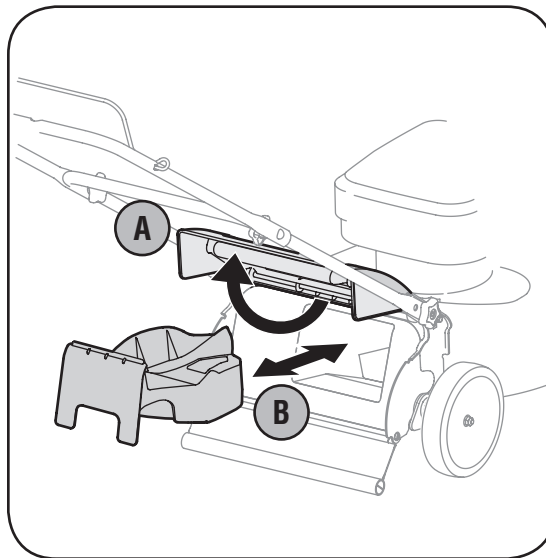

Figure 3-5: Removing (or installing) the rear mulch plug.
6. Before attaching the grass catcher, the mulching baffle must be removed. See Figure 3-5.